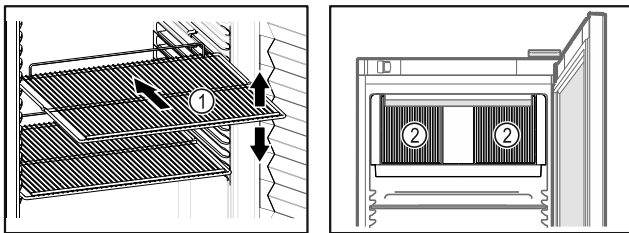

Fig. 70 Example illustration Fig. 71
- If there are adjustable shelves Fig. 70 (1), position them as required.